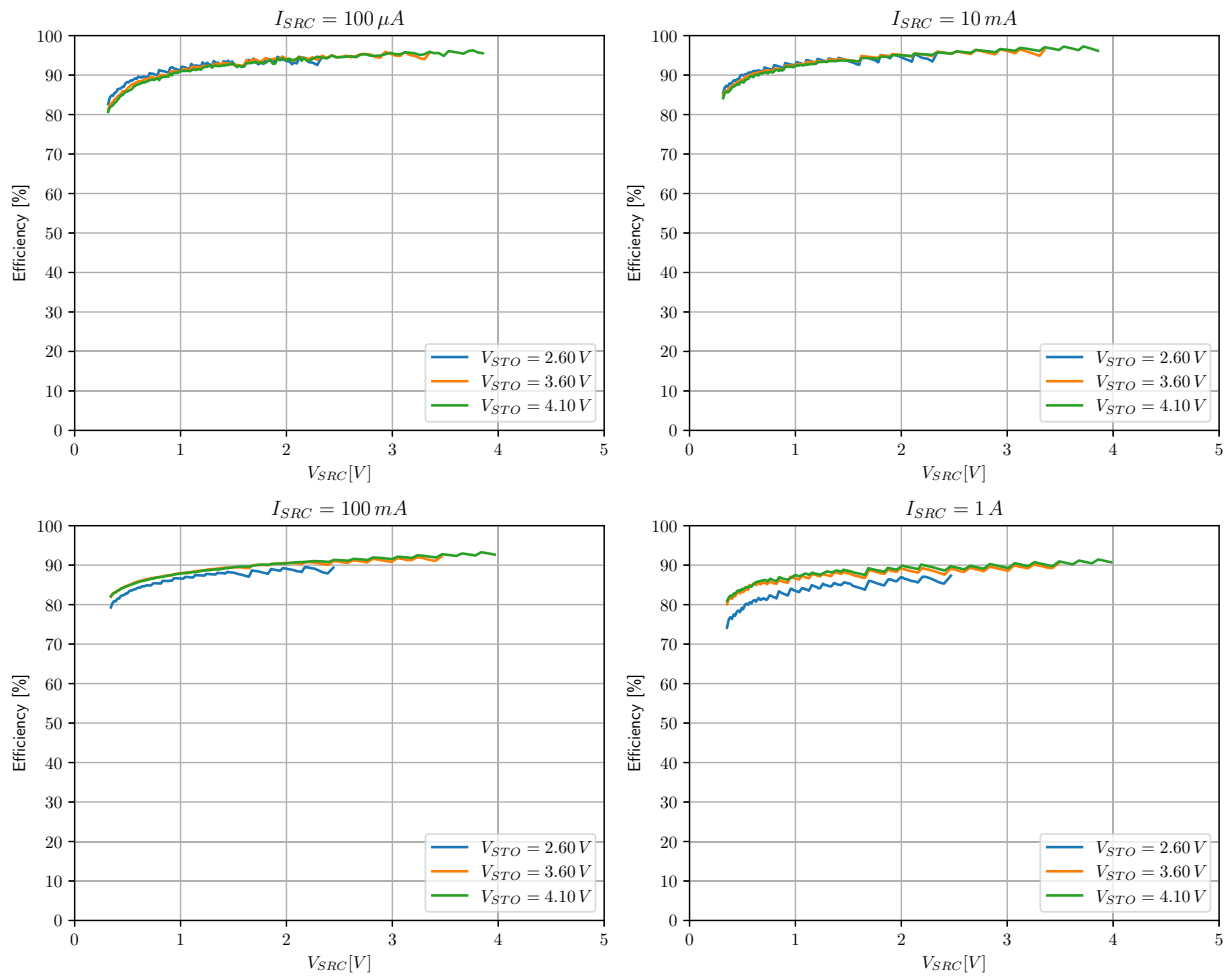
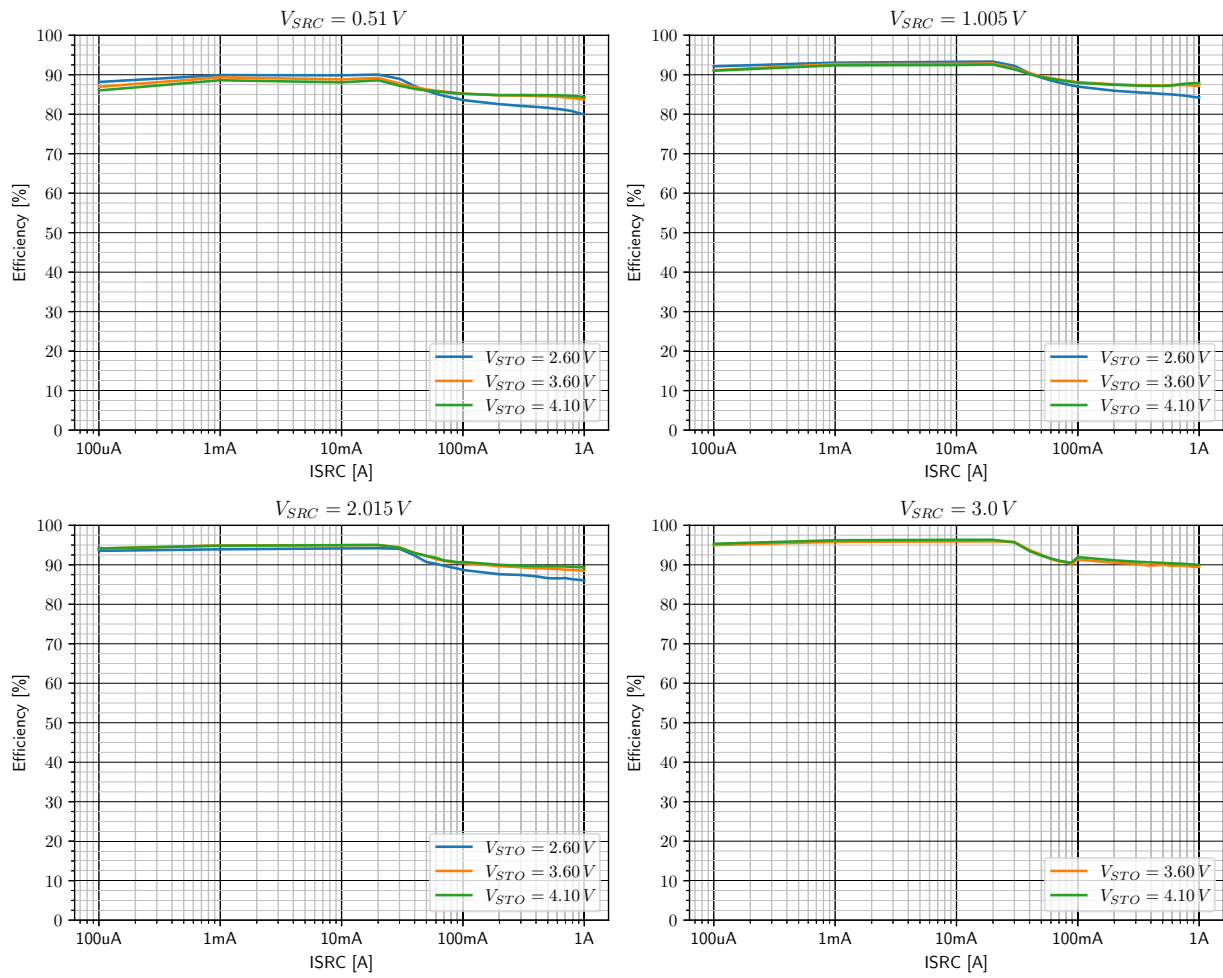

Figure 6: Boost converter efficiency vs. V_{SRC}
Figure 7: Boost converter efficiency vs. I_{SRC}
- Optional: a device able to act as an I²C master and send I²C commands to the AEM15820. Please note that, the results shown on Figure 6 and Figure 7 are with x3 boost timing for the BOOST_LP converter and x6 for the BOOST_HP converter.